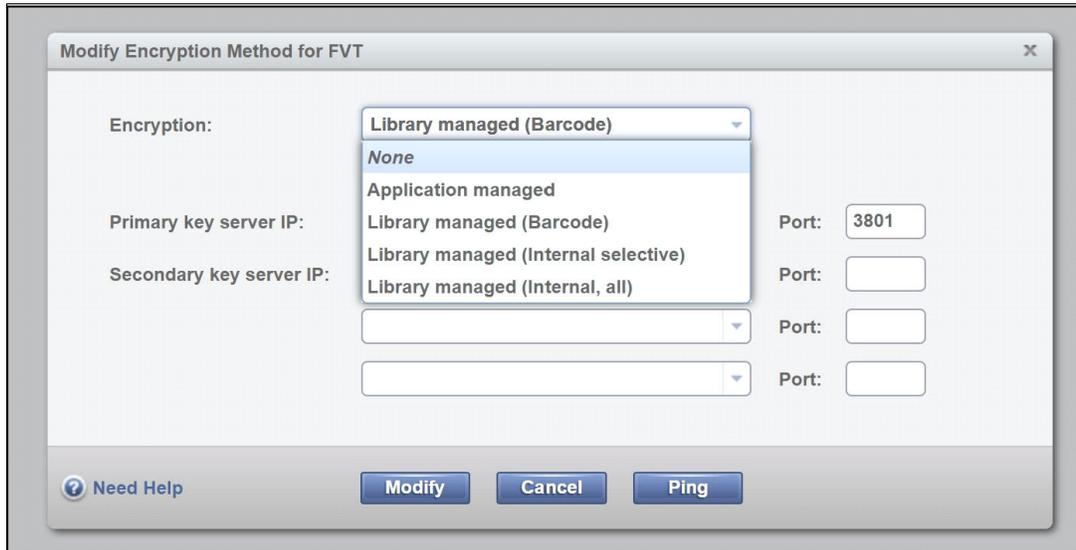

Figure 4-3 Modify Encryption Method window
3. Choose a method from the Encryption menu on the Modify Encryption Method window and click **Modify**, as shown in Figure 4-3.